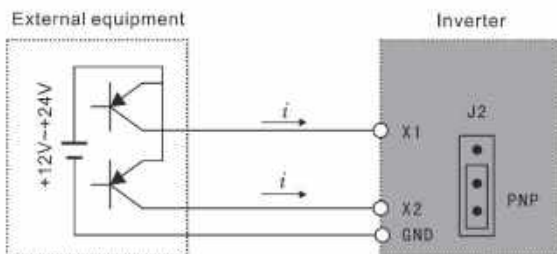

Figure 3-2 PNP Type Wiring Mode
(2) When PNP type wiring mode is adopted for external equipment, source-type logic is induced, and the current flows into from input terminal (sinking current) as shown in Figure 3-2, at the same time parameter F067=1 is required.